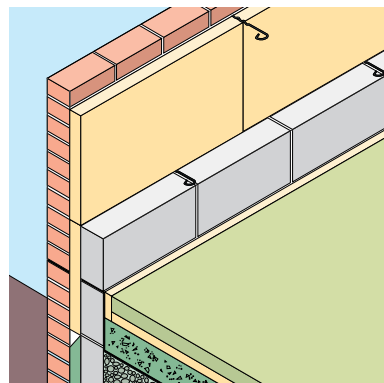

Figure 2
- 3 Build up a complete section of the leading leaf to one course above the next row of wall ties spaced at max. 900 mm horizontally (Figure 2). Ensure that all mortar joints are properly filled, particularly the perpends.